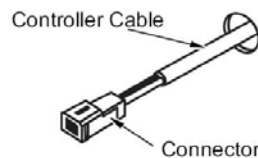

Fig. 2
3. Run the cable provided through the hole in the wall ensuring that the end fitted with the connector is nearest the controller (Fig.2).
3. Plug in the EZ Connect cable. The end marked To EZ Connect connects in the primary Infinity water heater to the 3 pin connector seen in Fig. 2. The other end, marked To PCB, connects to the empty plug at the top of the PCB of the other water heater (sub unit). (Fig. 2 and 3)
5. Attach pressure gauge to burner test point. (Fig. 2)